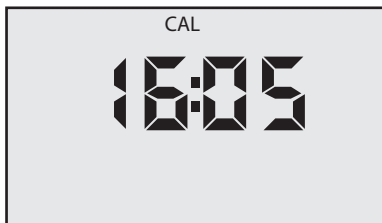

Figure 10
3. Press  to initiate. **CAL** will be displayed along with the time, (see Figure 10).